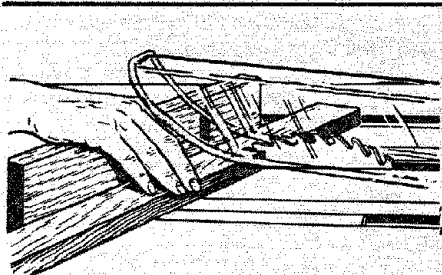

Figure 67
3. Miters are crosscuts at an angle to the edge of the work. (See figure 67.) The miter gauge is set at the required angle to make the cut. Here also, precautions must be taken to prevent creep.